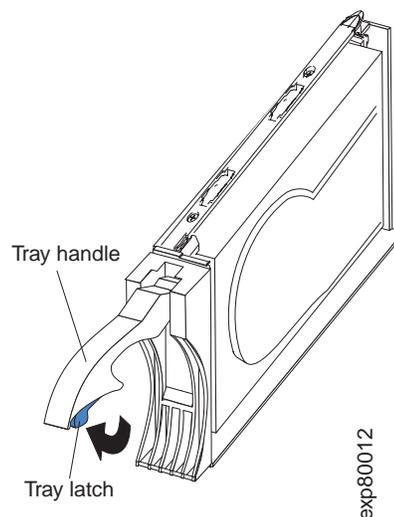

Figure 74. EV-DDM CRU handle
- b. Pull the handle on the tray out so that it is in the open position, as shown in Figure 74.
- a. Release the latch on the EV-DDM CRU by pressing on the inside of the bottom of the tray handle, as shown by the arrow in Figure 74 on page 113.